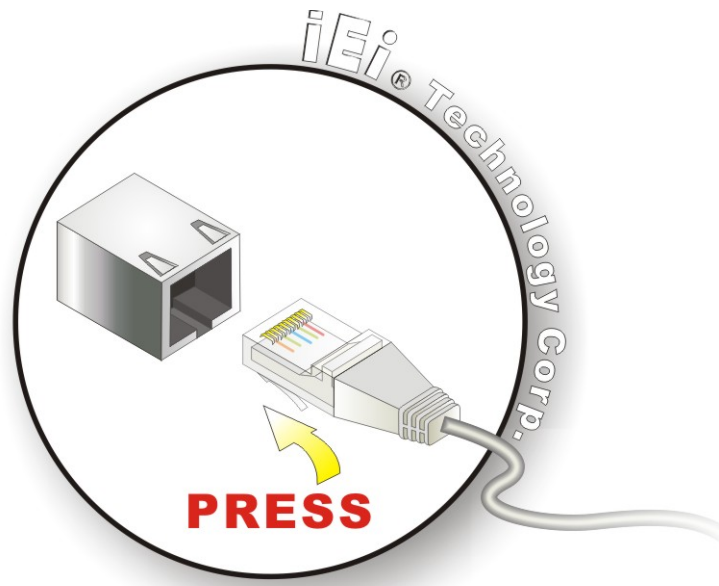

Figure 4-15: LAN Connection
- Step 2: Align the connectors.** Align the RJ-45 connector on the LAN cable with one of the RJ-45 connectors on the KINO-DH610. See **Figure 4-15**.